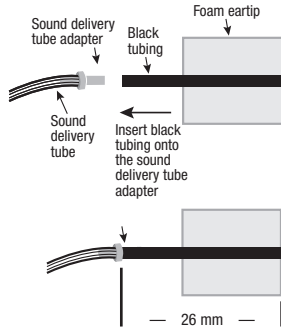

Figure 3
1. The length of black tubing from the end of the sound tube adapter through the foam eartip is 26 mm. Do not cut the black tubing that connects the foam eartip to the sound tube. (Figure 3)